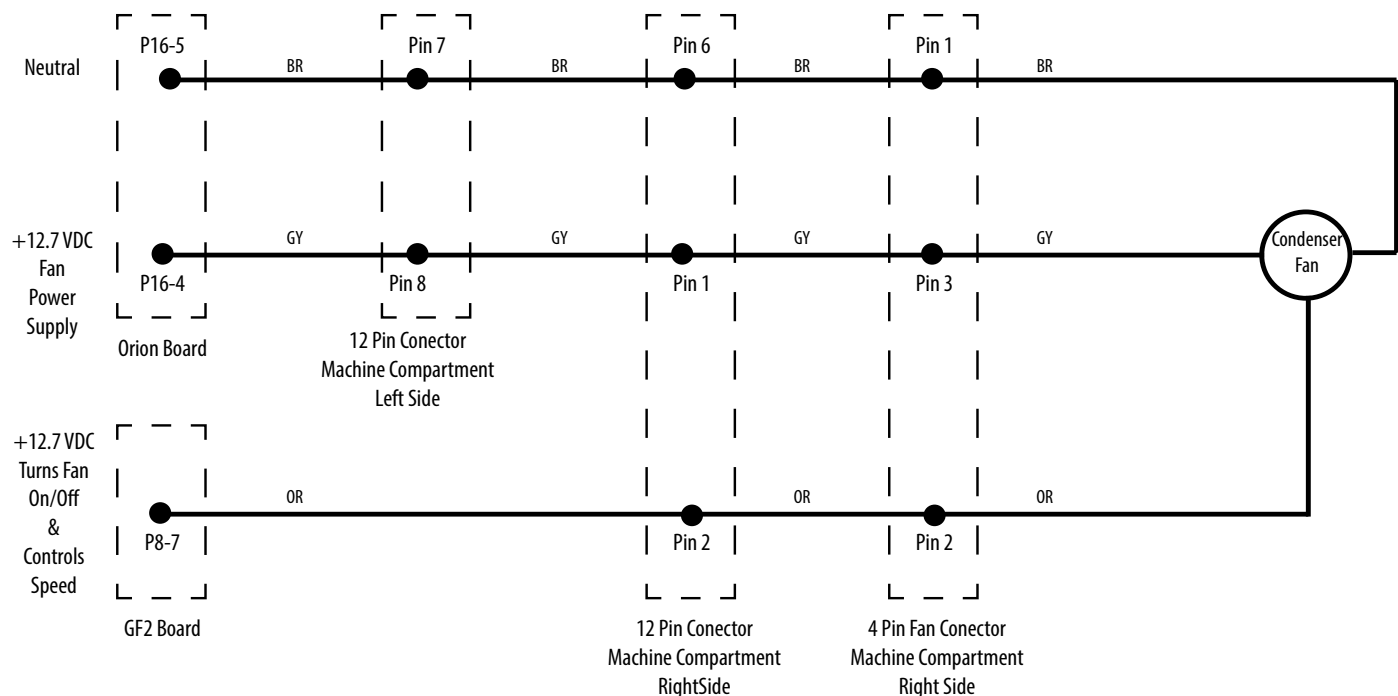

FIGURE 11: Condenser Fan Electrical Diagram
- Check all wiring connectors tight (FIGURE 11).